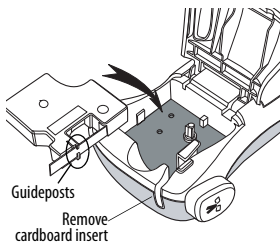

Figure 4
❶ Before using the label maker for the first time, remove the protective cardboard insert from the tape exit slot. See Figure 4.